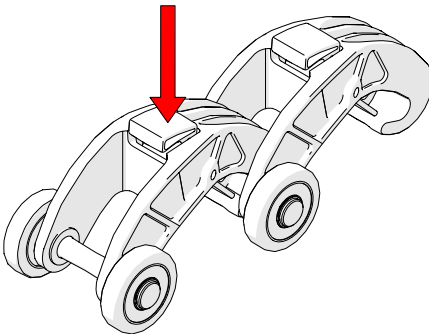

Fig. 48 - Press button
1. Press the button on the top of the QuickLink (*Fig. 48*).